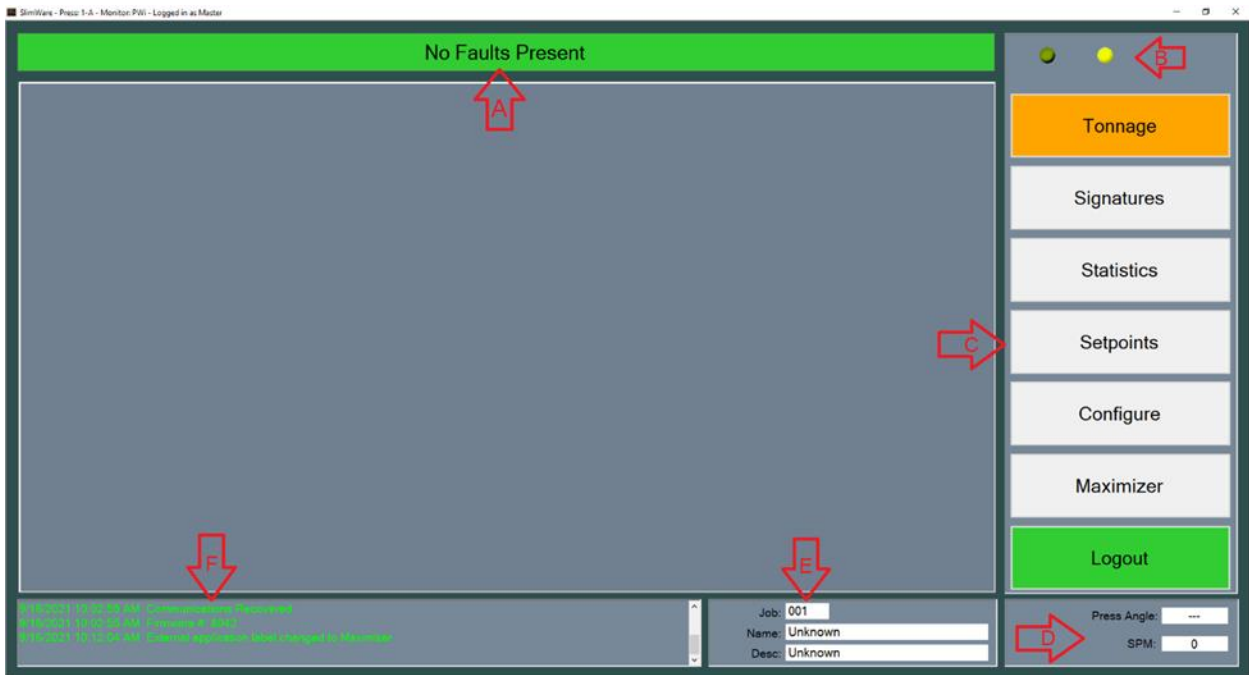

Figure 2-4: SlimWare Main Window
- **Status Bar (A)** – Displays the current status of the LS-ZT unit. If an alarm is detected, the status bar will flash red and white and display the highest-level alarm. To reset an alarm, a user can simply click on this bar while alarmed.
- **Indicator Lights (B)** – In the top right-hand of the SlimWare windows are two (2) yellow LED's. If these LEDs are idle, this is due to a communication error.
- **Navigation (C)** – These buttons allow the user to navigate to the various pages throughout SlimWare.
- **External Application**– This button will call an external program (such as a SCADA program). This program is declared on the configuration page. In Figure 2-4, the configured external program is the “Maximizer”, Toledo Integrated Systems’ proprietary automation program.